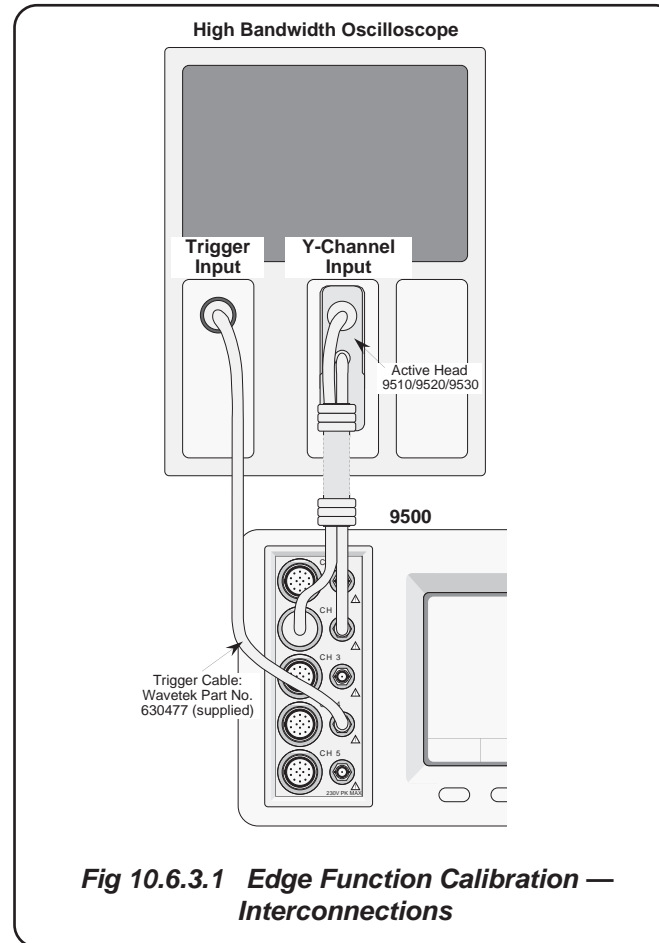

Fig 10.6.3.1 Edge Function Calibration — Interconnections
- 1. Connections** Ensure that the 9500B is connected to the Oscilloscope as shown in *Fig. 10.6.3.1*, and that both instruments are powered on and warmed up.
1. Ensure that the 9500B is connected to the oscilloscope as shown in *figure 10.6.3.1*. and that both instruments are powered on and warmed up.
1. Ensure that the 9500B is connected to the oscilloscope as shown in *figure 10.6.3.1*, and that both instruments are powered on and warmed up.